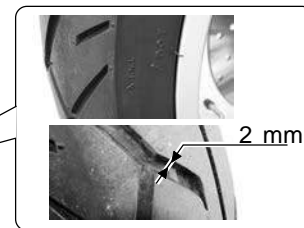

Fig. 6
**!** Minimum tread depth (front and rear) is 2 mm (Fig. 6).